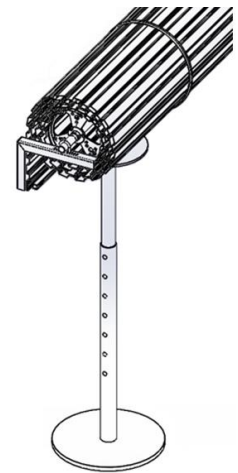

Fig 3.
2. Open the roller door fully and tie a rope around the door for safety. The door should be supported with a door stand or similar device. See Fig 3.